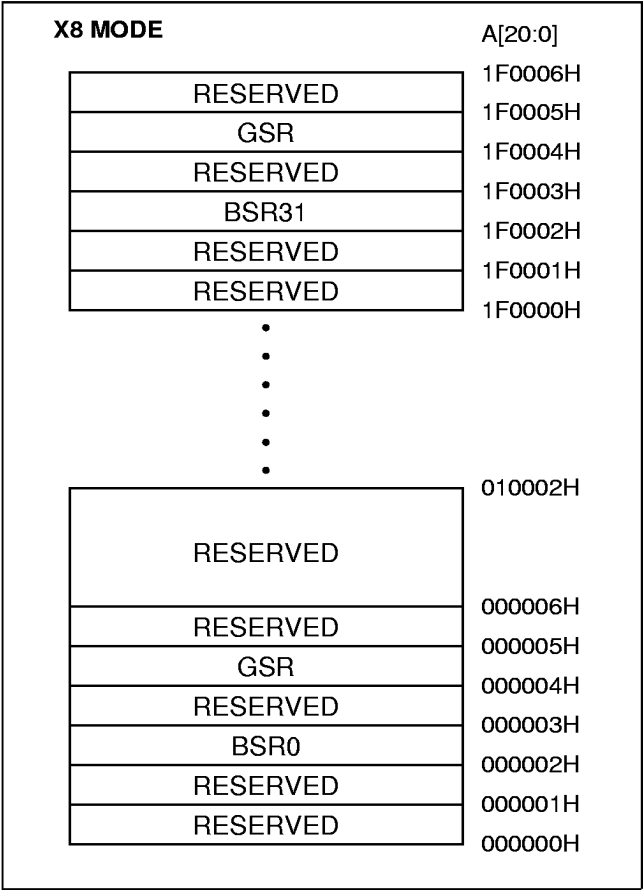

Figure 4.1. Extended Status Register Memory Map (Byte-Wide Mode)
1. RA can be the GSR address or any BSR address. See Figure 4.1 and 4.2 for Extended Status Register Memory Maps.